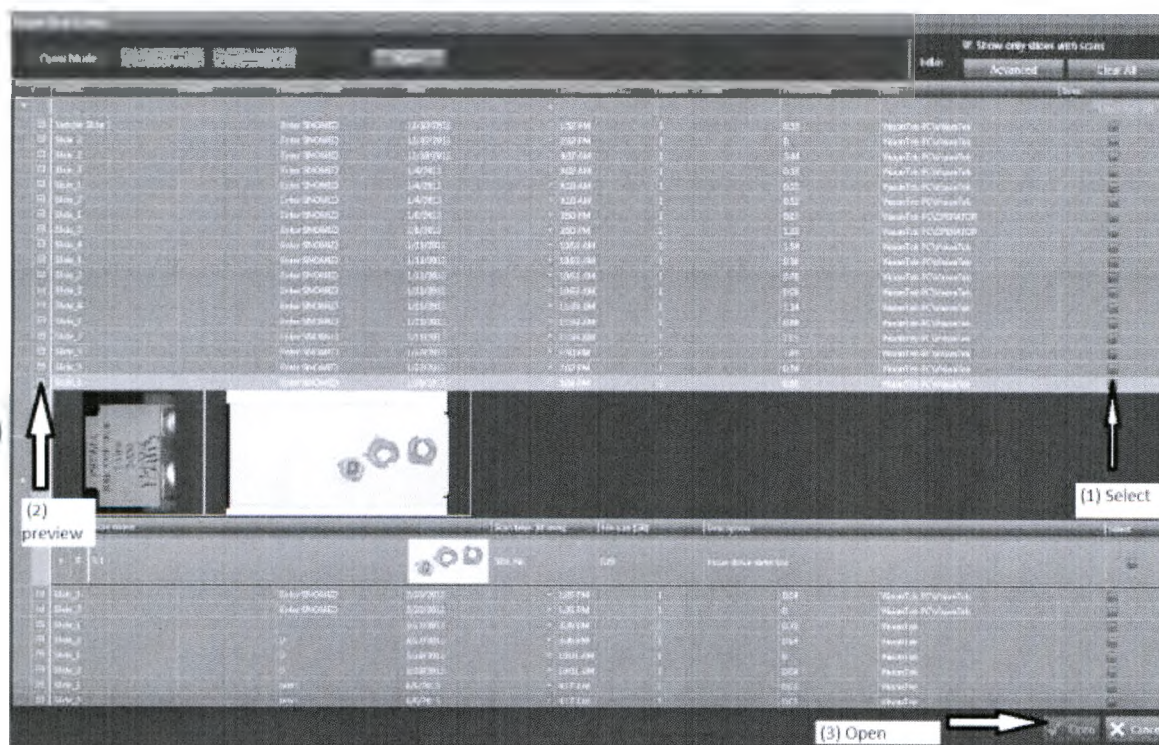

Figure 32
VisionTek will open the Digital slide gallery for selection. The slide image(s) to be opened are selected and the select box checked (1). See Figure 32.
By clicking on the + sign on the first column (2), a preview of the slide will be displayed. Once all digital slides needed have been selected, click open (3). See Figure 32.